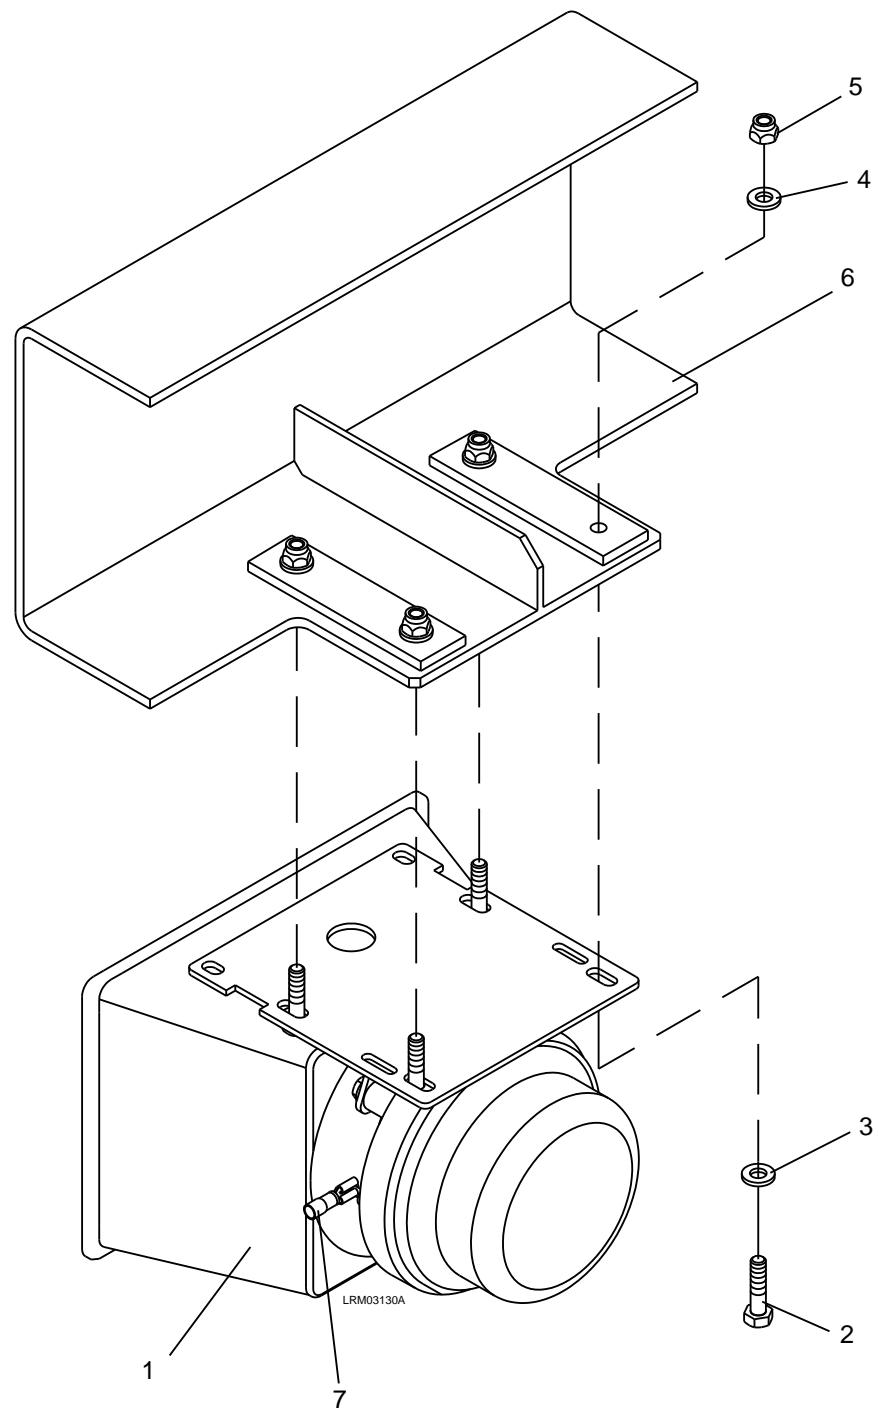

Figure 7-116: Horn
1. Disconnect the 1/4" Faston electrical connections (7) to the Horn (1).
2. Remove the four M6 ESNA nuts (5) and M6 plain washers (4), M6 x 25 bolts (2), and M6 plain washers (3). See Figure 7-116.
- 3 Carefully remove the Horn (1) from the mounting bracket (6).